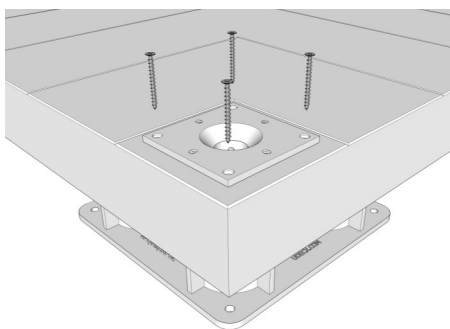

Fig. 44
Secure the Mounting Plate (N) to the Pad (B) with four Self-tapping Screws (M) (Fig. 44).